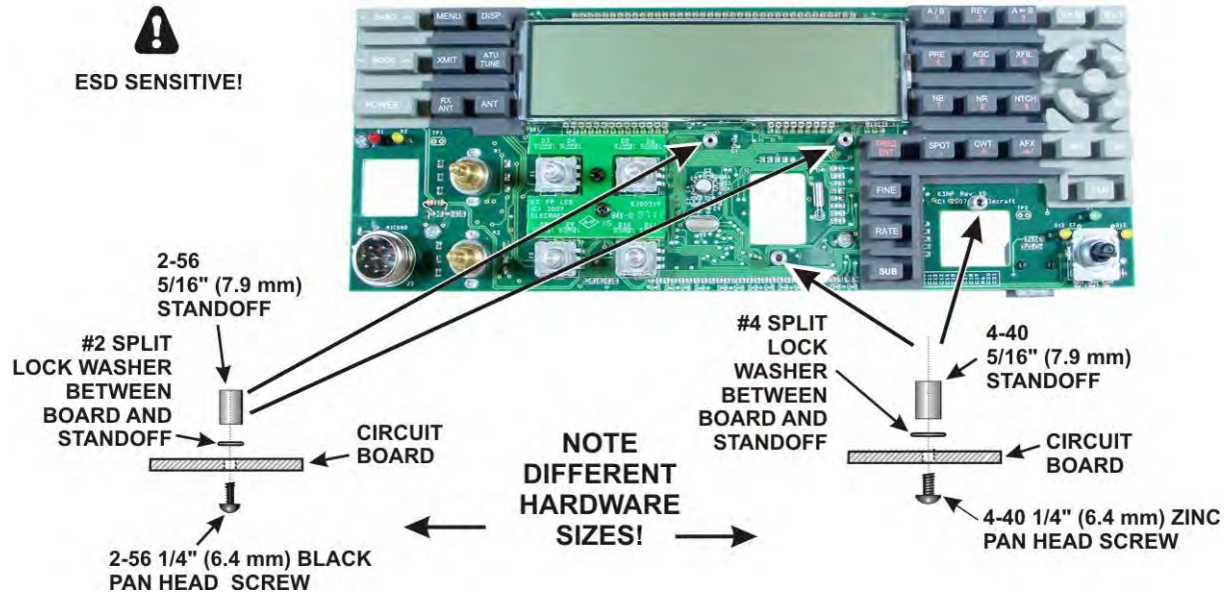

Figure 38. Preparing the Front Panel Board for Mounting, Part 2.
- On the front side of the board, mount four standoffs as shown in Figure 38.
- Two 4-40 5/16" (7.9 mm) standoffs are mounted on the front as shown in Figure 38.
- Two 2-56 5/16" (7.9 mm) standoffs are mounted on the front as shown in Figure 38.